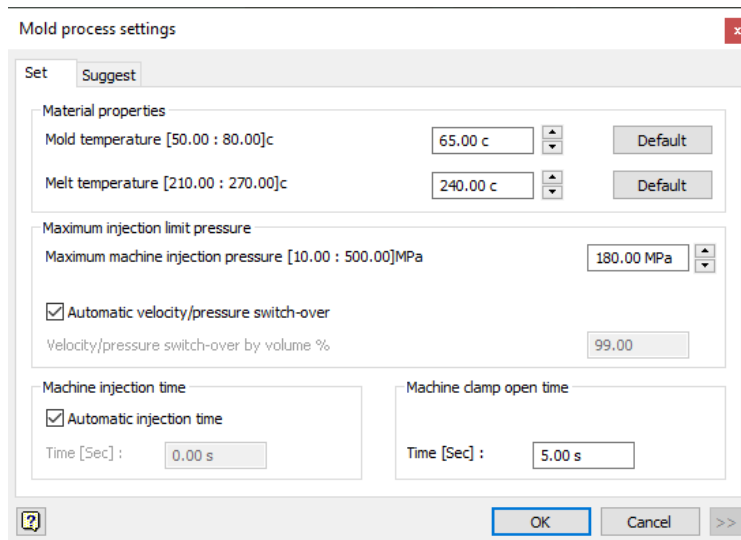

Figure 19-95 The Mold process settings dialog box
1. Choose the **Mold Process Settings** tool from the **Mold Simulation** panel in the **Mold Layout** tab of the **Ribbon**; the **Mold process settings** dialog box is displayed, refer to Figure 19-95.